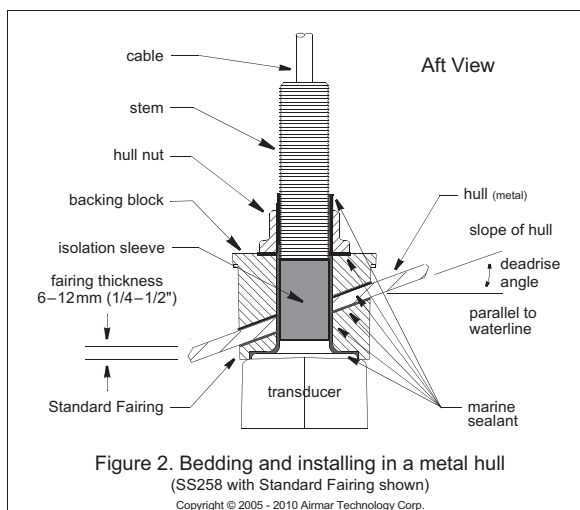
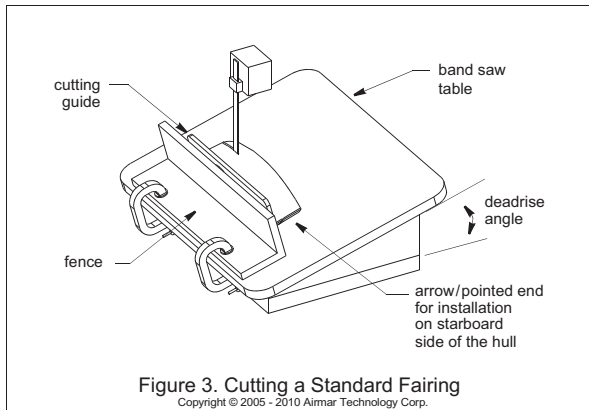

Figure 2. Bedding and installing in a metal hull
Figure 3. Cutting a Standard Fairing
1. Drill a 3mm or 1/8" pilot hole perpendicular to the waterline from inside the hull (see Figure 2). If there is a rib, strut, or other hull irregularity near the selected mounting location, drill from the outside.
1. Measure the deadrise angle of the hull at the selected location using an angle finder (see Figure 2)
2. Tilt the band saw table to the measured angle and secure the cutting fence (see Figure 3).
4. Adjust the cutting fence, so the fairing will be cut in about two equal parts (see Figure 3). *The section that will become the fairing must be between 6–12mm (1/4–1/2") at its thinnest dimension (see Figure 2).*
Stainless steel transducer/stem in a metal hull—Slide the isolation sleeve over the bedded transducer stem as far down as possible (see Figure 2). Apply a 2mm (1/16") thick layer of the marine sealant to the outside of the sleeving.
Stainless steel transducer in a metal hull—Be sure the isolation sleeve is between the transducer stem and the hull (see Figure 2). However, the top of the isolation sleeve must be below the top of the hull nut or the backing block to prevent the sleeving from interfering with tightening the hull nut.
2. From inside the hull, slide the backing block (if installing with a fairing) and the hull nut onto the cable. Seat the backing block against the hull, being sure the arrow/pointed end faces forward toward the bow. Screw the hull nut in place and tighten it with slip-joint pliers (see Figure 2 or 5).